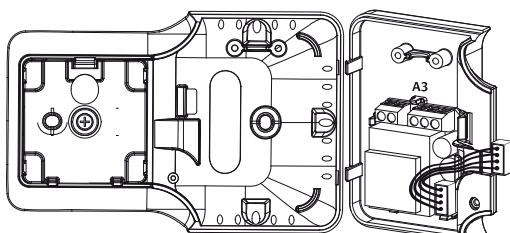

Fig. 4
3. make the electrical connections as shown in fig. 4;